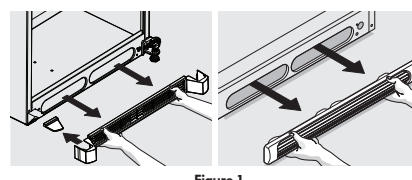

Figure 1
1. Remove the toe grille (Figure 1).